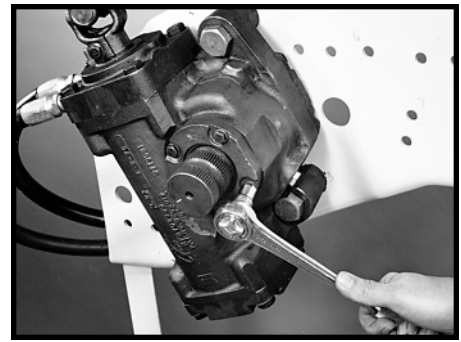

Figure 10
1.4 Next, remove the four trunnion cover bolts (28) washers (27) and trunnion cover (25). SEE FIGURE 10. A 1/2 inch socket required. Be prepared for fluid loss. Then remove and discard the sector shaft seal package consisting of the two-piece sector shaft seal (23), the Teflon* backup washer (24), and the trunnion cover seal ring (22). SEE FIGURE 11.